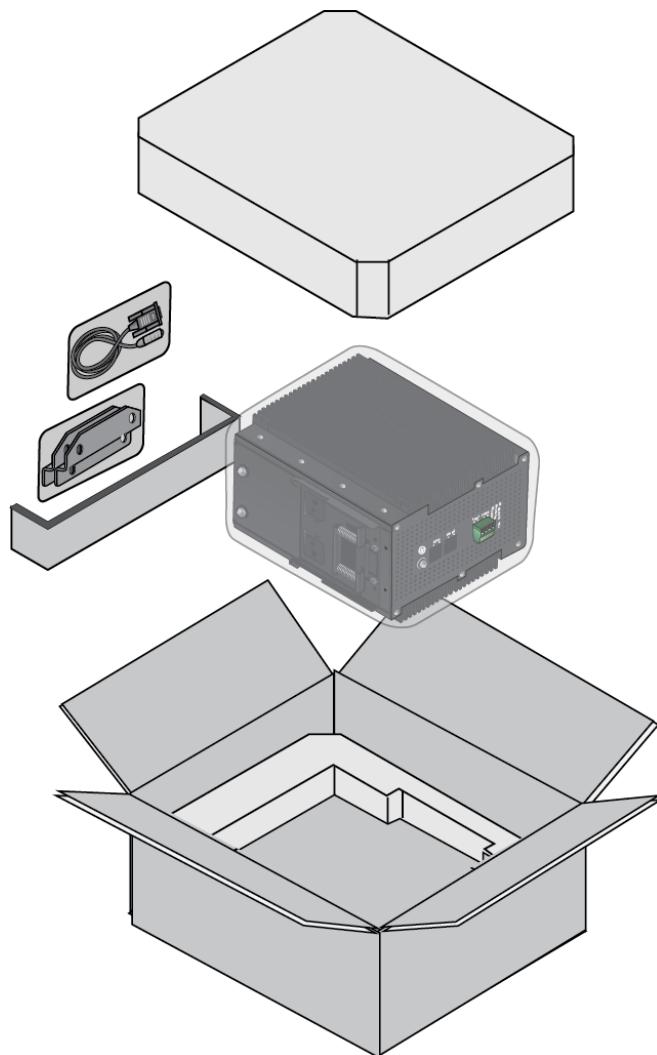

Figure 14. Removing the Switch from the Shipping Box
1. Remove all the components from the shipping box. Refer to Figure 14.